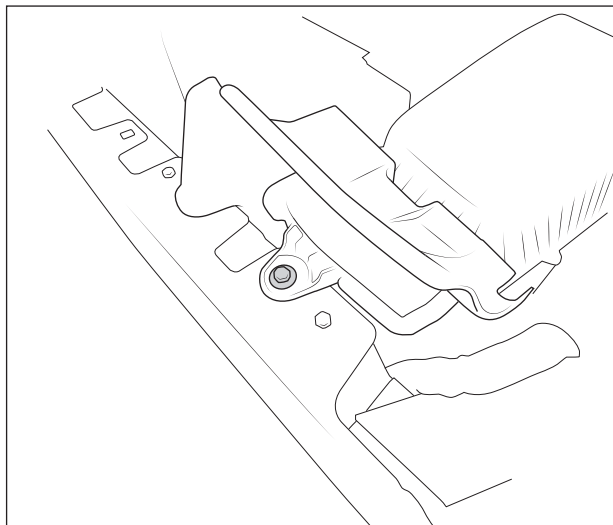

Figure 6
- B. Use M10 wrench or socket to remove the mounting bolt holding airbox inlet to fender and discard. This outboard bolt will not be reused, the two front intake hose bolts will be (fig. 6).